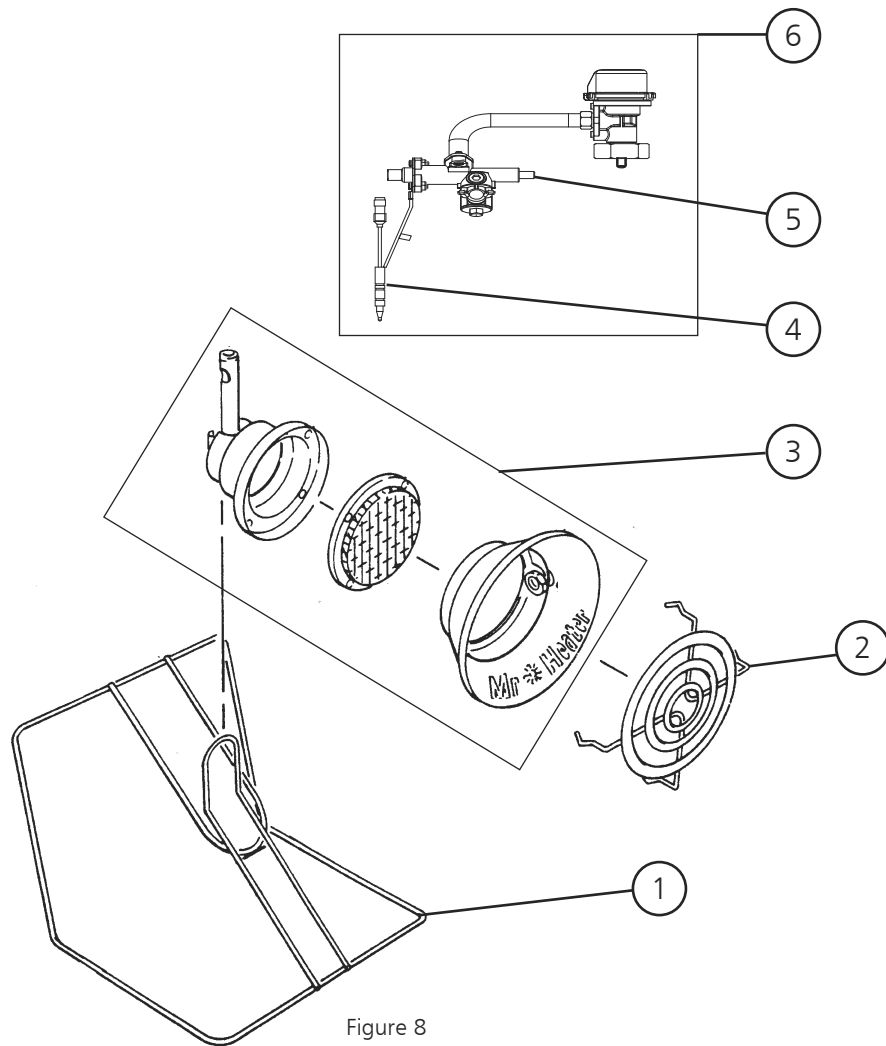

Figure 8
- See Figure 8 for replacement parts list.